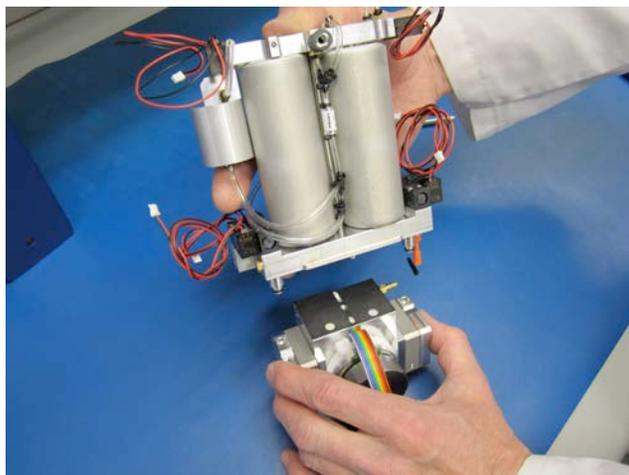

Figure 5.17
3. Remove the compressor by pulling the compressor away from the PSA assembly. Care should be taken not to separate manifold from beds. (See Figure 5.17.)